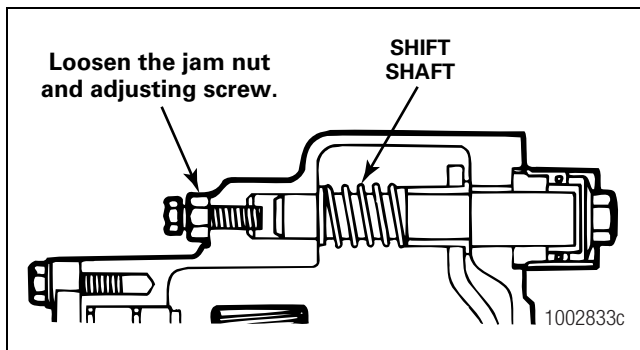

Figure 5.116
- A. Loosen the jam nut on the adjusting screw. Loosen the adjusting screw so that the screw does not touch the shift shaft. Figure 5.116.